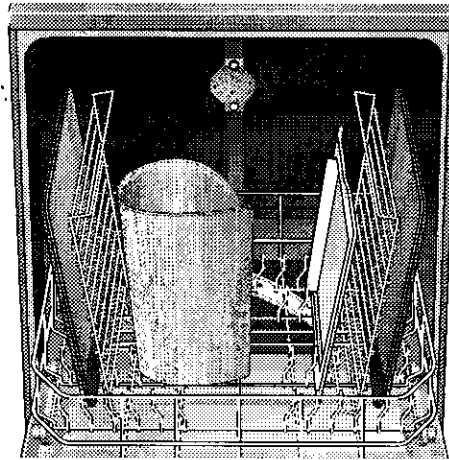

Figure 36
If you have extra tall items that cannot fit in the bottom rack without interfering with the upper spray arm or without hitting the top rack (max. height 22"), you can remove the upper rack. A special accessory, the Extra Tall Item Sprinkler, lets you run the dishwasher with top rack removed. See Figures 36 and 37.
3. Place the extra tall items in the bottom rack for washing, as shown in Figure 36. To remove the Extra Tall Item Sprinkler, turn it counterclockwise and pull it out. Then replace the top rack.